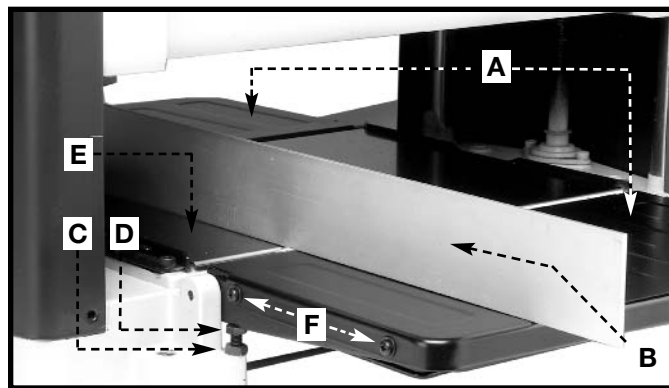

Fig. 17
For optimum performance, the extension tables (A) Fig. 17 must be level with the planer table. To check the extension tables and adjust if necessary:
1. Place a straight edge (B) Fig. 17 on the planer table (A) with one end extending out over the extension table. Check to see if the infeed table is level with the planer table on both ends of the planer table.
2. If an adjustment is necessary, loosen the locknut (C) Fig. 17, and adjust the stop screw (D) on each side of the extension table (A) until the extension table is level with the planer table (E). Tighten the locknut (C). Recheck and make certain that the inside edge of table extension is level with the planer table. If necessary, loosen the two screws (F), adjust the extension table and retighten the two screws (F). Adjust the opposite side of the table in the same manner. Make certain that the extension table is solidly supported when downward pressure on the table is applied.